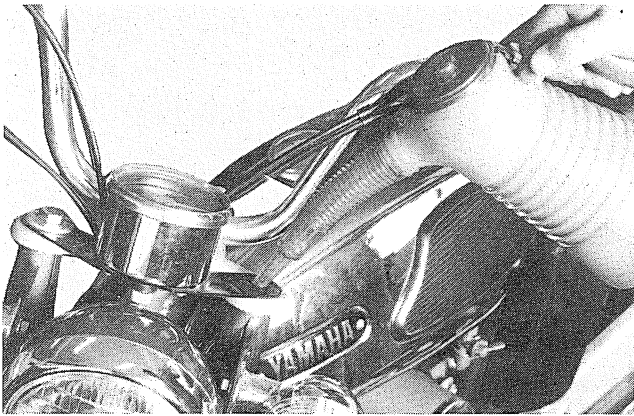

Fig. 4-3-11
- 3) Feed front fork oil into the inner tube through the upper opening. (Fig. 4-3-11)